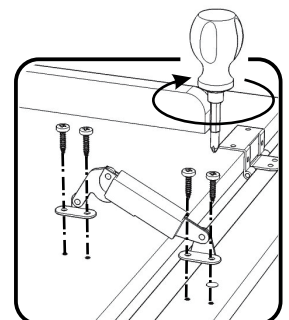

Figure 2
Attach Spring Supports to Seat (A) by inserting Wood Screws for Spring Support into pre-drilled holes, then tighten. (See Figure 2)